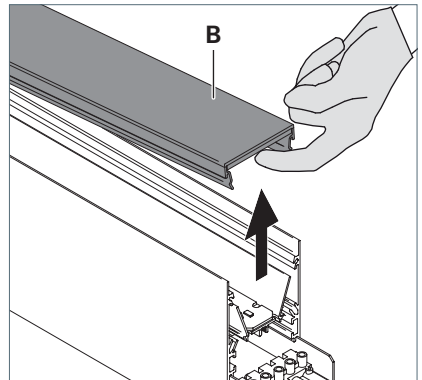

Fig. 12: Removing the cover.
- ▶ Remove the cover **B** on the side on which the light is directly emitted, see Fig. 12.